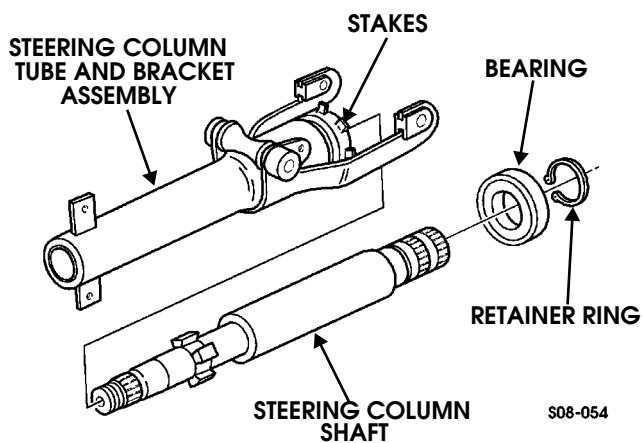

Figure 8-13: Steering Column and Shaft
5. Remove six stakes from the tube and bracket assembly (Figure 8-13).
1. Install the shaft, bearing, and retainer ring into tube and bracket assembly (Figure 8-13).
3. Stake bearing securely in six (6) places (Figure 8-13).
3. Remove six stakes from the tube and bracket assembly (Figure 8-13).
1. Slide bearing onto shaft and secure it with retaining ring (Figure 8-13).